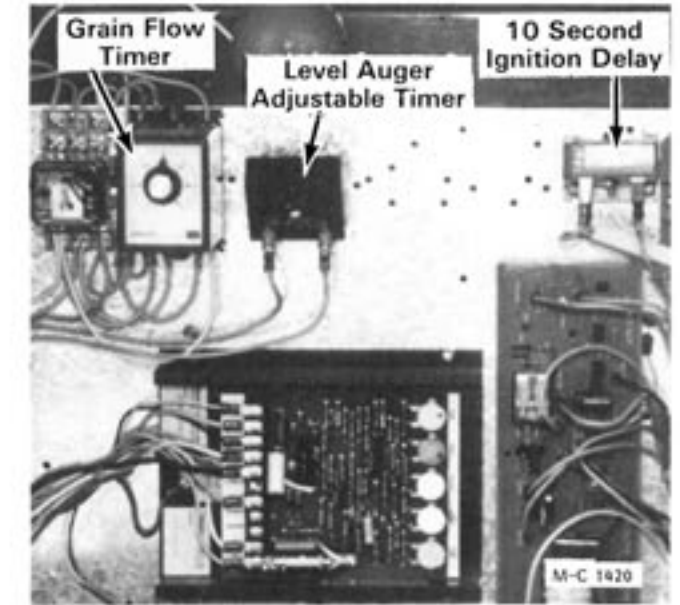

Figure 25
There is an adjustable .1 to 8 minute delay in the level auger circuit, see Figure 25. It is activated when the level auger switch is in the AUTOMATIC position and the level auger light is calling for grain.
The Grain Flow Timer, Figure 25, will shut the dryer down if there is an insufficient grain supply to fill the hopper. When the level auger starts, the Grain Flow Timer will be activated. When the timer counts down to zero, the dryer will shut down and the Grain Flow light will come on.
2. Flip the level auger switch to the AUTOMATIC position. Turn the timer control knob, Figure 25, to 30 minutes. The level auger will start after the .1 to 8 minute delay if the level auger light is on calling for grain.
4. Average the 6 refill times and reset the Grain Flow Timer, Figure 25, to run 5 minutes longer. For example, if it takes the level auger an average of 5 minutes to refill the dryer, set the Grain Flow Timer to run 10 minutes.